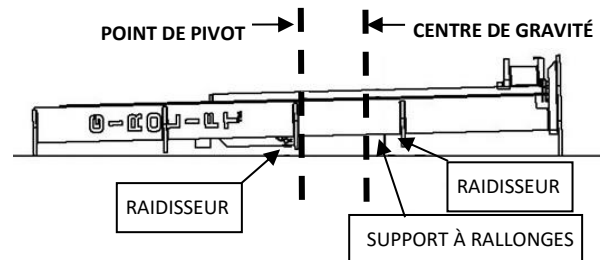

FIGURE 8 : POINT DE PIVOT ET CENTRE DE GRAVITÉ SUR UNE COLONNE AU SOL
- 3.1 À L'AIDE D'UNE SANGLE DE LEVAGE ET D'UN ÉQUIPEMENT DE MANUTENTION SÉCURITAIRE ET ADÉQUAT, AMENER UNE COLONNE À LA FOIS LE PLUS PRÈS POSSIBLE DE SON SITE D'INSTALLATION ; PLACER LA SANGLE DE LEVAGE AU CENTRE DE GRAVITÉ (RÉPARTITION ÉGALE DU POIDS) DE LA COLONNE. VOIR **FIGURE 8**.**
- 3.3 DÉPLACER LA SANGLE DE LEVAGE AU POINT DE PIVOT SOUS LE RAIDISSEUR. VOIR **FIGURE 8**.**